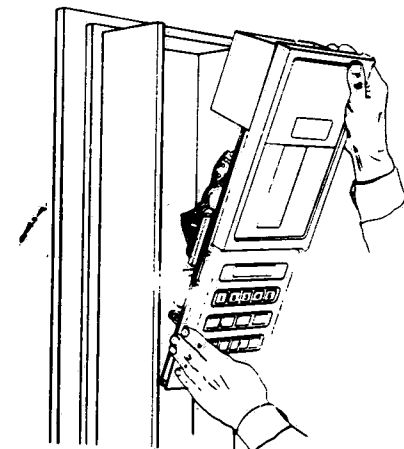

FIGURE 7-1 – Preparing Control for Service
7.2 PREPARING CONTROL FOR SERVICE (Figure 7-1)